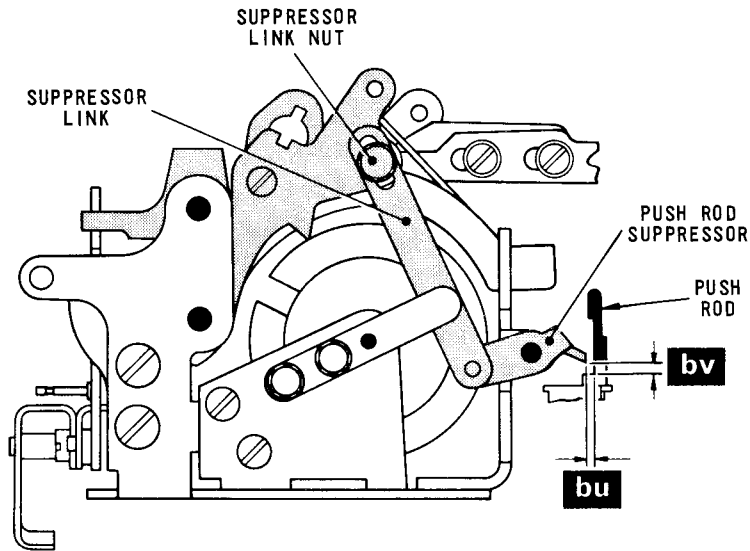

Fig. 4.84 PUSH ROD SUPPRESSOR/PUSH ROD CLEARANCES
- 105.1 Release the answer-back unit and feed the ward drum round for one or two wards. Check that there is now a horizontal clearance of .010 - .015 in. (dimension 'bu') between the push rod suppressor, Fig.4.84, and each push rod.